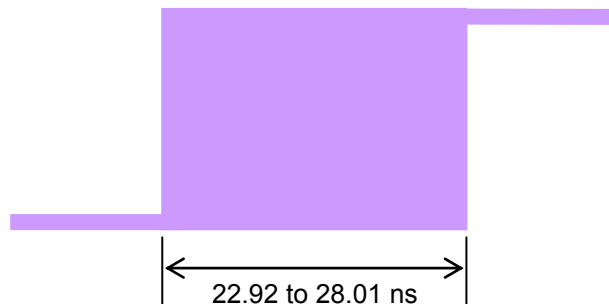

Fig. 6.3.5-2 Example of waveform measured by sampling oscilloscope
4. Adjust the rising or falling edge of the waveform to the Center of the sampling scope, and set the span to 5 ns/Div. Trace overlapping waveforms for 10 seconds with the oscilloscope, and check that the phase deviation of the measured waveforms falls within the range shown in Fig. 6.3.5-2.